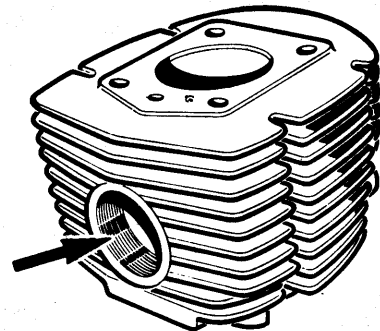

Fig. 1
- Scrape the carbon deposits from the exhaust port (fig. 1).
### REMOVING THE EXHAUST PIPE (Blunderbuss type - Fig. 1)